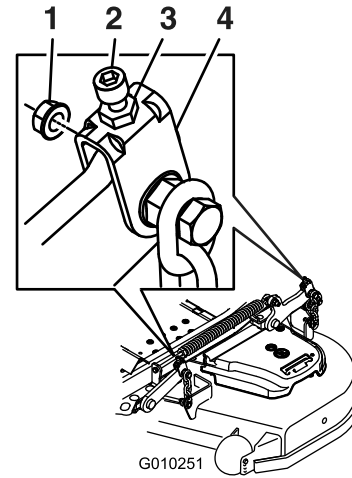

Figure 93
- 10. If needed, loosen the flanged locknut on the side of the yoke and the jam nut on top. Fine-tune the adjuster screw by turning it to get 7.6 mm (3 inch) height (Figure 93).
16. Fine-tune the adjuster screw by turning it to get 8.3 mm (3-1/4 inches) height (Figure 93).